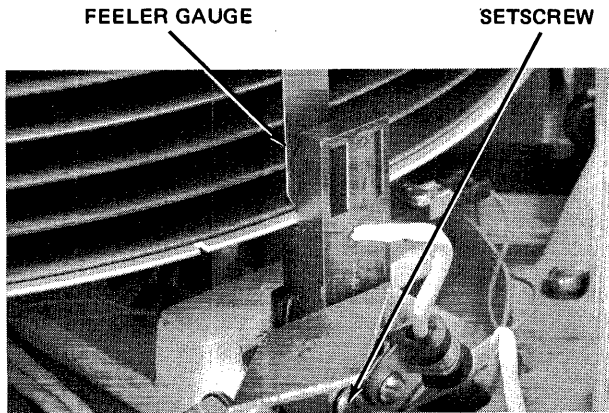

Figure 4-16. Sector/Index Transducer Adjustment
- r. Install disk pack, place 0.033-inch feeler gauge between disk pack and sector/index transducer (see Figure 4-16), and adjust setscrew for slight drag of disk pack.